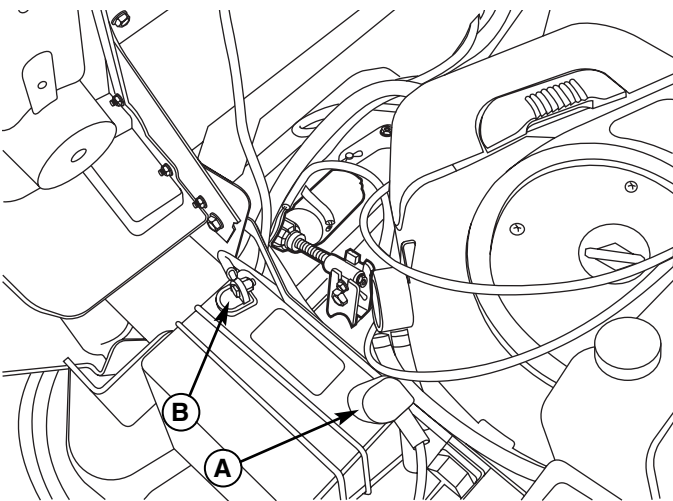

Figure 30. Engine Compartment
1. Disconnect the cables from the battery, negative cable first (B, Figure 30).
6. Reattach the battery cables: first attach the positive cable (see A, Figure 30), then attach the negative cable (B).